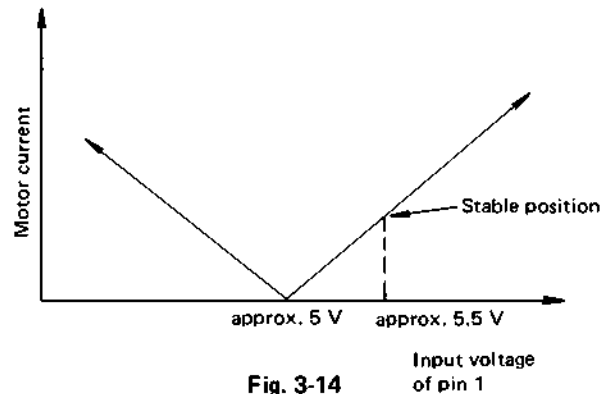

Fig. 3-14
As indicated in Fig. 3-14, each video head traces 9 (7) recorded tracks. However, due to the slant azimuth recording system, each (CH-1 or CH-2) head produces an effective signal output only when it traces its corresponding track. Also, since the tracing angle differs greatly from normal speed, the playback FM waveform becomes a diamond-shaped pattern, as shown in Fig. 3-14, and noise bars appear in the picture display.